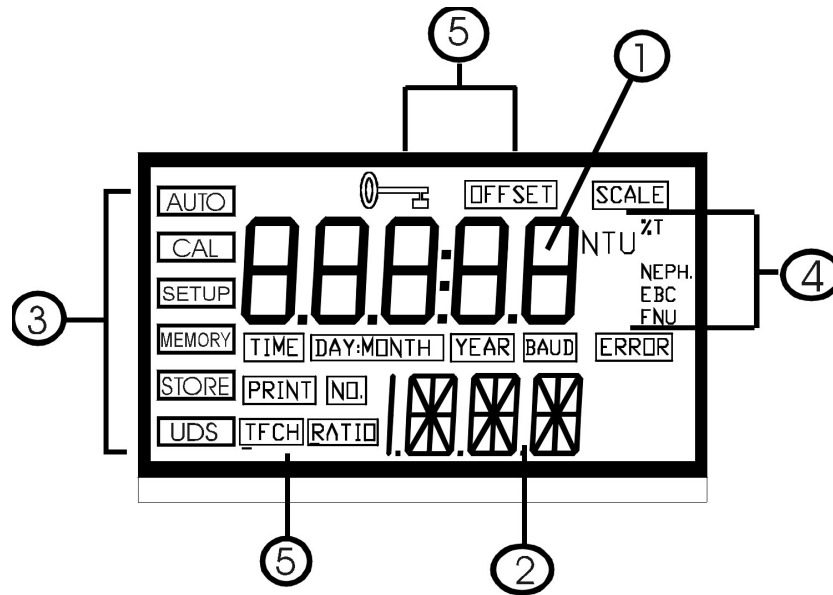

Figure 1- Display used in the instrument.
Figure 1 illustrates all the items that can appear on the display. The upper row of the display (1) is used for reporting the turbidity levels and to provide user guidance in the customer setting routine. The lower row of the display (2) is used to communicate error messages and user guidance. The display has several status indicators (3) that distinguish the operation of the instrument. In addition there are several indicators that display the different scales (4) that the instrument will report. Other indicators (5) provide guidance when the setup and calibration routines are being used.